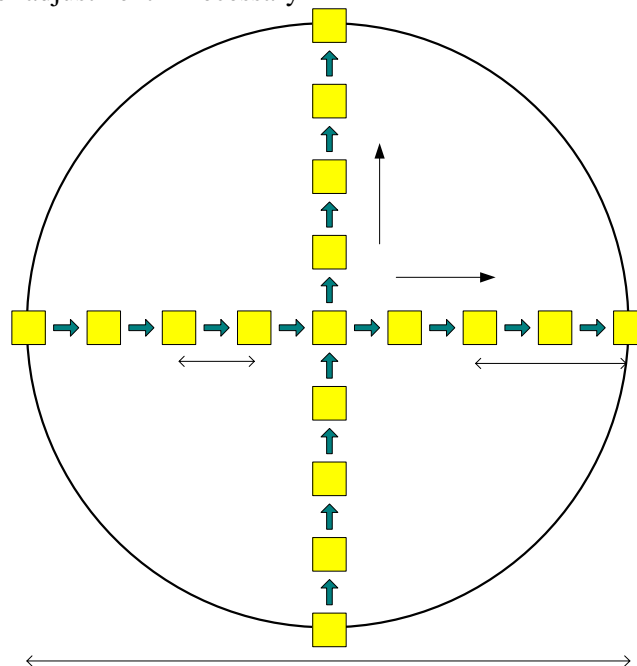

Figure 1: Raster Pattern For SLW Peak-Up
10. Perform raster shown in figure 1 using the BSM instead of the telescope simulator to move the source, note the size of the raster is dependant on the pixel tested.